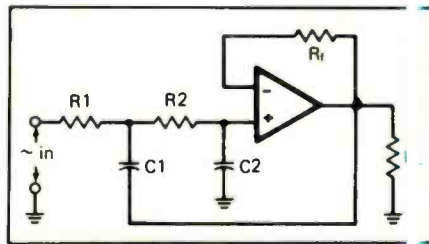

Fig. 3. A second-order, low-pass unity-gain active filter.
• **Low-Pass Filter.** For the present, let's concentrate on the Butterworth filter, whose damping ratio is 1.414. Component values affected by the damping ratio depend on what kind of circuit you're using. A low-pass unity-gain filter circuit is shown in Fig. 3. Note in this arrangement that C_2 goes to ground, while C_1 provides a path for some of the op amp's output to be fed back to the input of the filter network made up of R_2 and C_2 . This arrangement, not possible in a passive filter, allows you to do away with the inductor in an active filter.
With the Fig. 3 circuit, the damping ratio is used to determine the values of C_1 and C_2 . We'll still compute (or scale from the reference filter), but this time the result will be only the starting point—not the final value—for each capacitor. In essence, what you'll get are the "average" values for C_1 and C_2 . The actual values of these capacitors are calculated using the average values and the damping ratio figure.